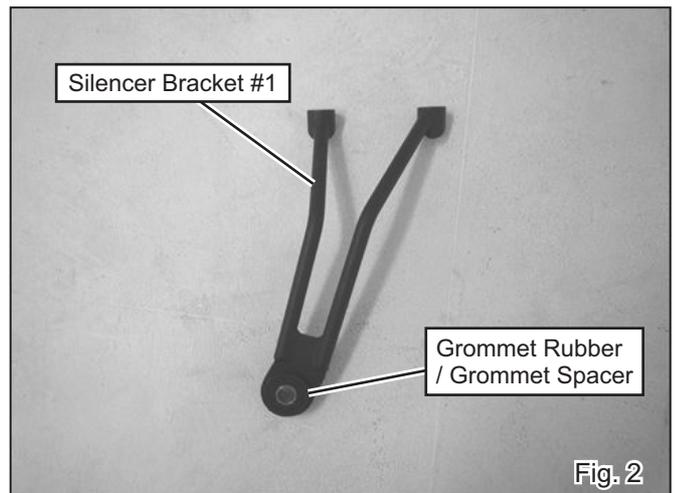

Fig. 2
- 4) Insert Grommet Rubber and Grommet Spacer to Silencer Bracket #1 (See Fig. 2).